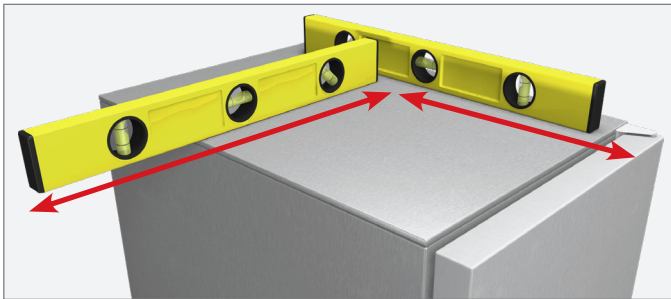

FIG. 1. Check the level from the top of the unit.
2. Verify the unit's level. On the unit's top, check the level front-to-back and side-to-side. See fig. 1.